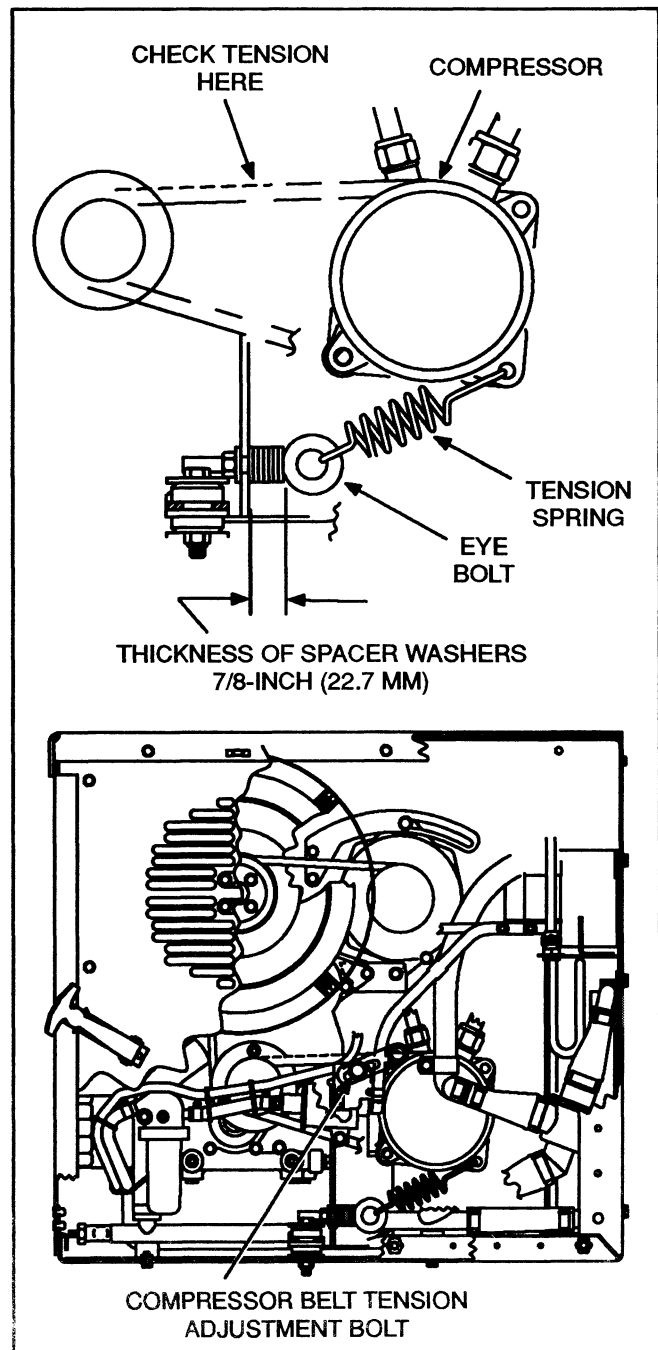

FIGURE 6-3. COMPRESSOR BELT ADJUSTMENT
The air conditioning compressor is mounted below the alternator in the back of the power unit (Figure 6-3). A spring tension system is used to maintain the drive belt tension.
1. Carefully loosen the AC compressor eye bolt spring tensioning nut as far as possible without removing the nut (Figure 6-3). Accidental removal of the nut from the end of the eye bolt will cause the adjustment spacers to drop into the unit. If this happens all of the spacers will have to be recovered and installed on the eye bolt for proper belt tension.